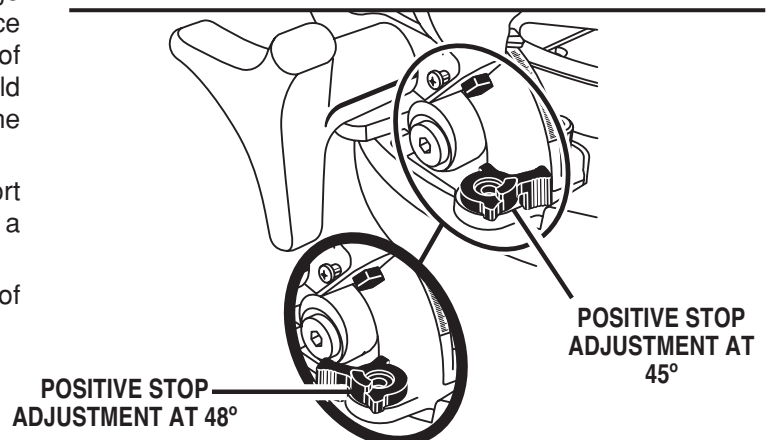

Fig. 25
- Bevel angles can be set from 0° to 48°. See Figure 25.